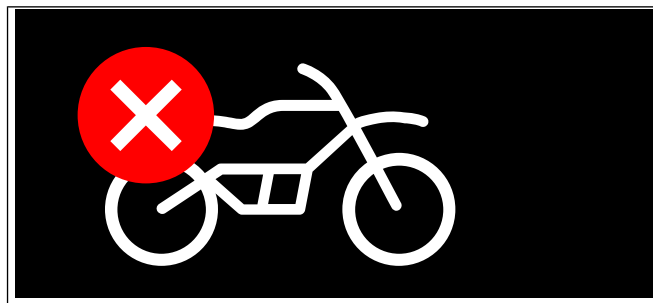

Figure 10. No Connection
- b. Figure 10 If communication is NOT successful, the BCI Disconnected icon will be displayed. Check all cable connections, make sure the vehicle battery is fully charged, and make sure that the ignition is ON.